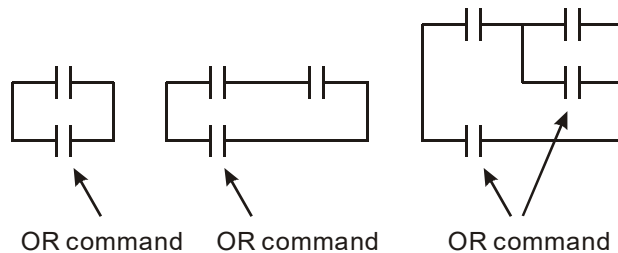

Figure 17-33
**OR (ORI) command:** a single device is connected with one device or a block. See Figure 17-33.